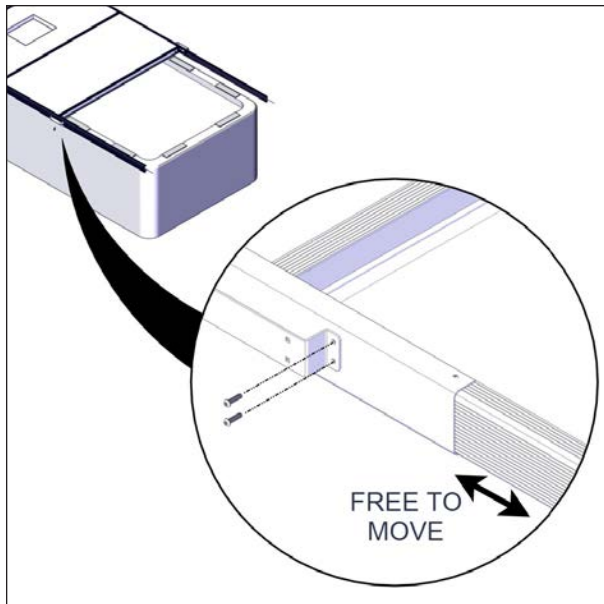

FIGURE 49: SCREW INSTALLATION
12. Install two 1/4" x 1" hexagonal round head screws on the support bracket see Figure 49. DO NOT tighten those screws yet. The side extension C-channel must be free to move in its slots.